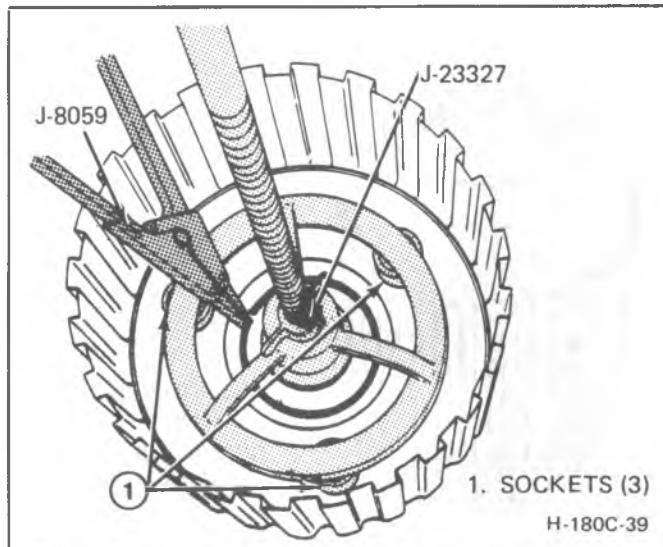

Figure 33 Removing Snap Ring From Second Clutch Piston
**Assemble (Figure 33)****Tools Required**